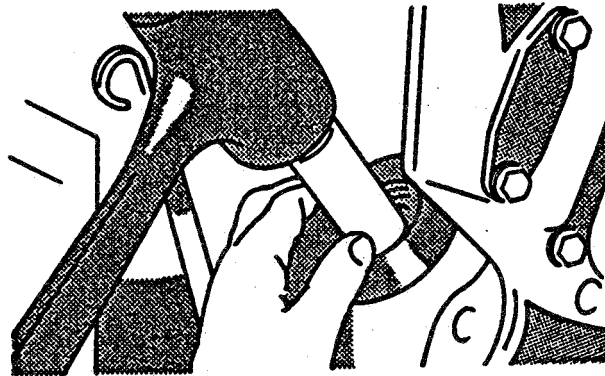

FIGURE 3-31. Driving Oil Filter Nipple
- (2) Using a tubular driver, push oil filter nipple into cylinder block until it is flush with cylinder block, refer to FIGURE 3-31.